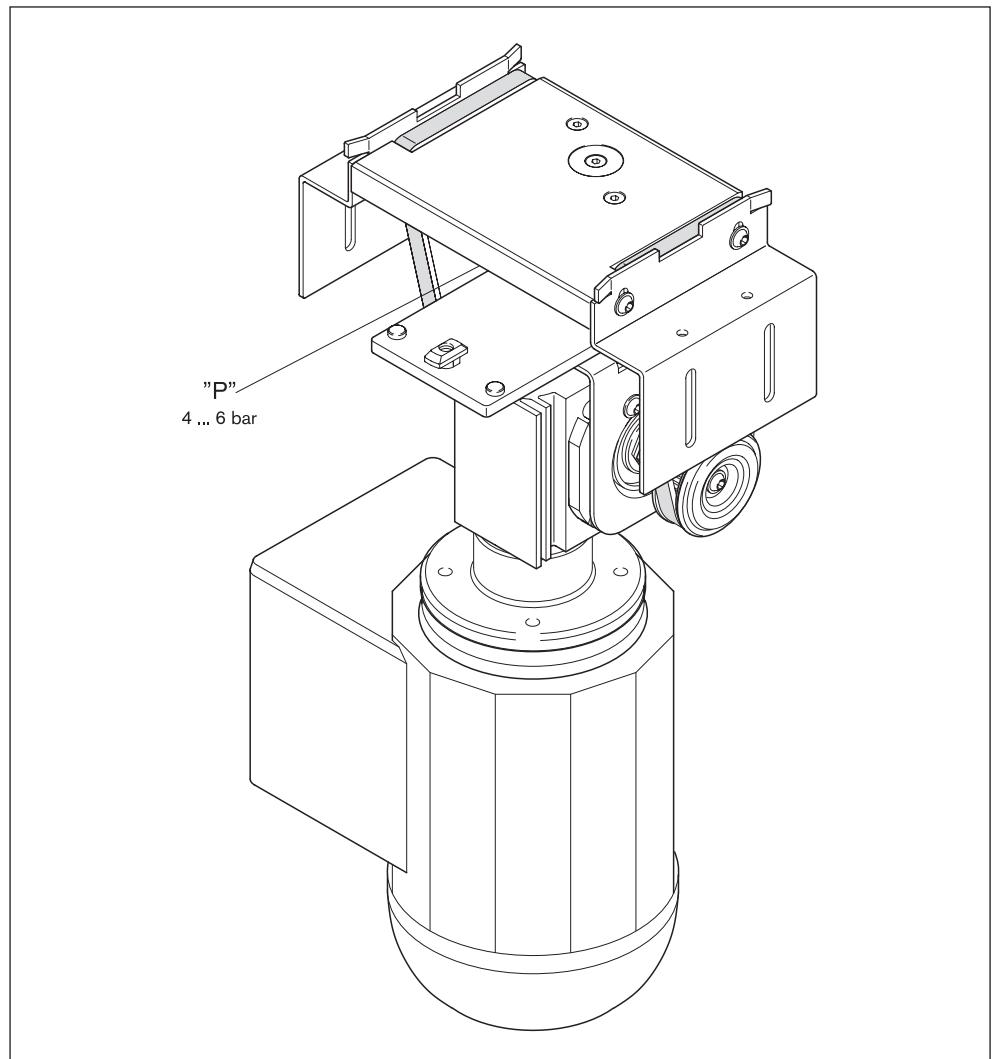

Fig. 12
- ▶ Connect the compressed air connections "P" at bracket pivoting screw fittings (Fig. 12) via plug-in fixing connections (pipe outer diameter 4 mm) to the associated control valve or to the maintenance unit.